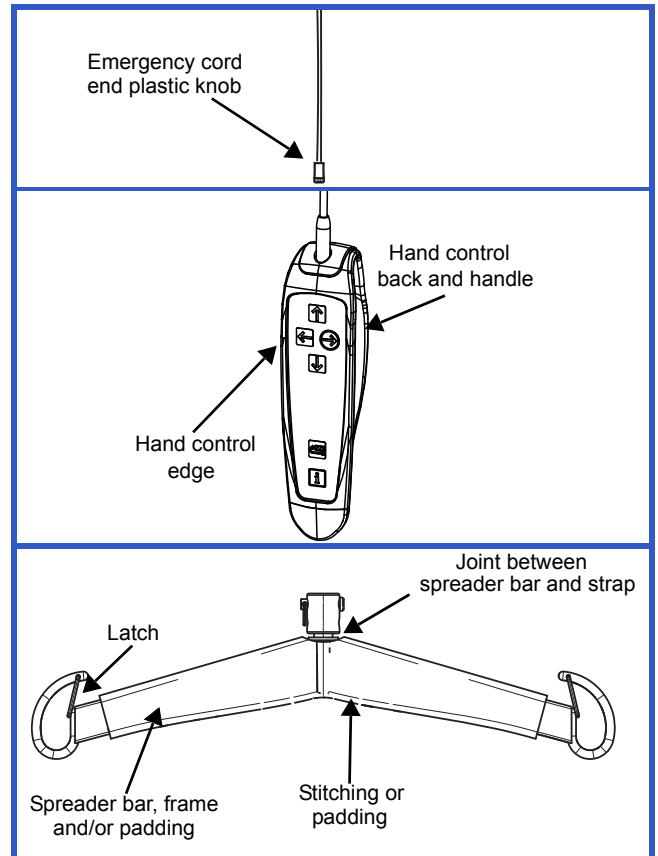

Fig. 35
**NOTE:** Pay special attention to areas pointed in Fig. 35. These are most likely to enclose germs. Use a smaller brush and/or cotton swab to reach them.